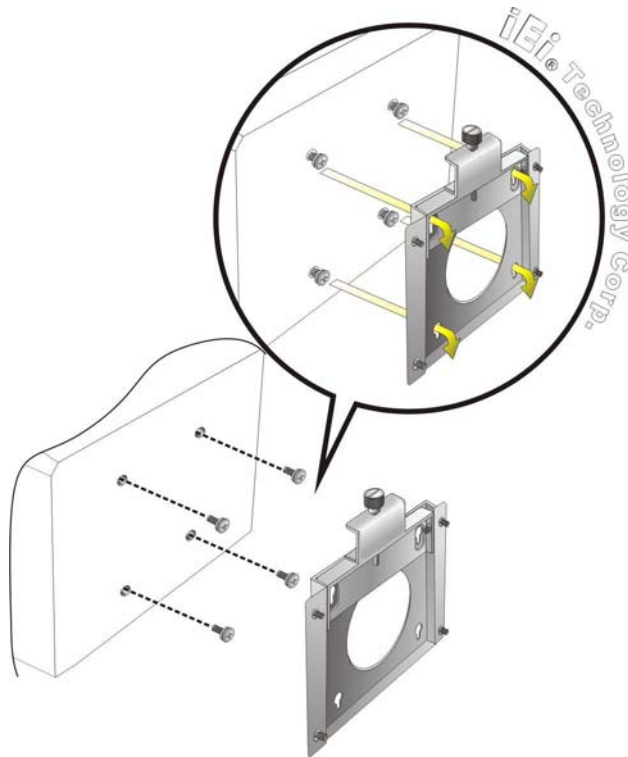

Figure 3-6: Chassis Support Screws
- Step 6:** Insert the four mounting screws provided in the package into the four screw holes on the bottom panel of the uIBX-210-CV-N2600 and tighten until the screw shank is secured against the bottom panel (Figure 3-6).
Step 8: Carefully insert the screws through the holes and gently pull the system downwards until the system rests securely in the slotted holes (Figure 3-6). Ensure that all four of the mounting screws fit snugly into their respective slotted holes.